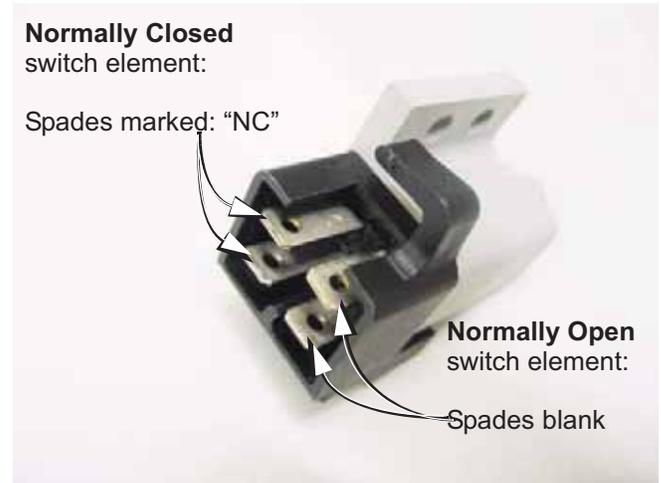

Figure 7.45
- The male spade terminals that are associated with each-other face each-other broad-surface to broad surface. See Figure 7.45.